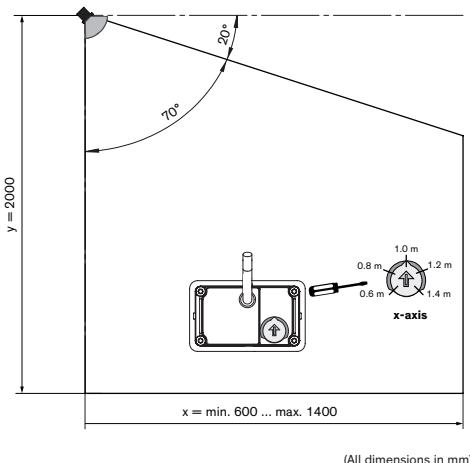

Figure 3: Detection area using potentiometer
- The scale is not printed on the sensor. However the potentiometer can be adjusted in five fixed steps of 0.2 m; starting at 0.6 m (at the 7 o'clock position) up to 1.4 m (at the 5 o'clock position); see Figure 3 below.